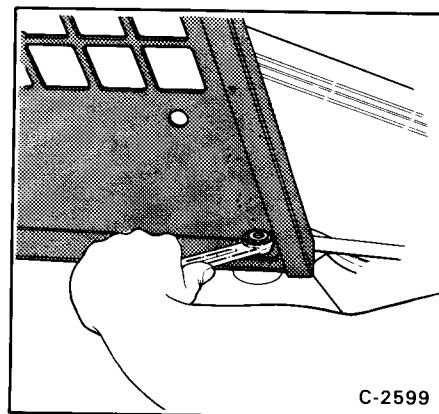
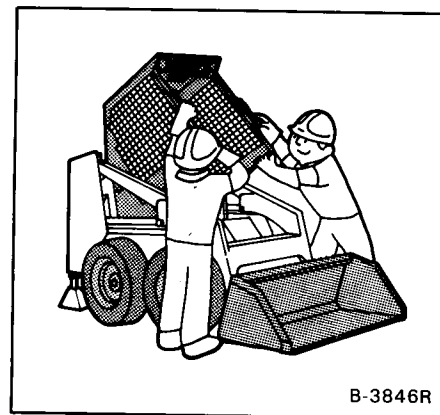

Fig. 36 Operator Guard Bolts
Fig. 37 Raising Operator Guard (Correct)
5. Remove the two (2) bolt assemblies (including washers) at the front corners of the operator guard (Fig. 36).
6. Two (2) persons are needed to lift the operator guard. Avoid slippery surfaces when lifting the operator guard.
7. Stand on the ground (one person on each side) and lift the operator guard using the grab handles and the bottom of the guard (Fig. 37 & 38).
4. Both persons must slowly lower the operator guard by holding the bottom of the operator guard and the grab handles (Fig. 37).
5. Install the two (2) bolt assemblies (including washers). Tighten the nuts to 40 - 50 ft-lbs. (54 - 69 Nm) torque (Fig. 36).